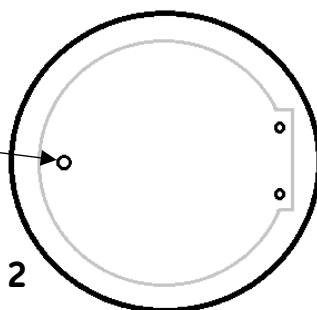

Fig. 2
- Remove the fastening screw securing the LED plate and open the LED plate (see Fig. 2)